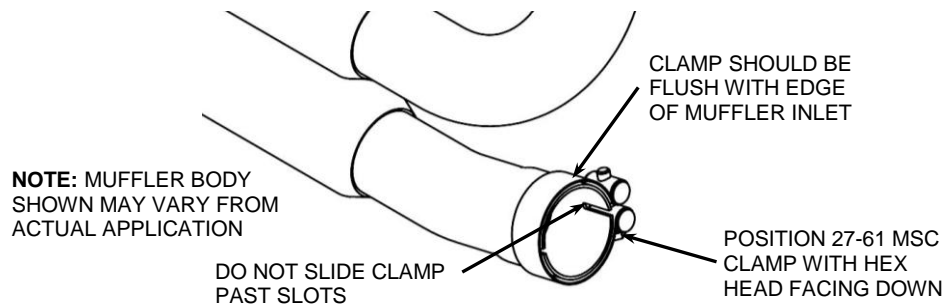

FIGURE 2
9. Position the supplied #27-61 MSC muffler clamp with hex head facing inward and down as shown in **FIGURE 2** and slide it onto the rear muffler inlet tube.
11. Secure the muffler assembly to the exhaust mount bracket using the (2) supplied 5/16"-18 bolts but **DO NOT TIGHTEN**.
12. Make sure the rear muffler assembly and front headpipe are straight and parallel and tighten in the following order; headpipe flanges to the cylinders (slowly tightening opposing nuts), muffler assembly to the exhaust mount and finally the muffler inlet clamp. (NOTE: The muffler inlet clamp should be flush with the end of the muffler inlet when tightened. See **FIGURE 2**. If the muffler inlet clamp is slid past the slots on the muffler inlet, the clamp will not tighten properly).
15. Install the front heatshield first. Slide the rear portion of the heatshield forward over the muffler while gently pushing the front of the heatshield into place between the frame and motor (NOTE: Spread the hose clamps apart slightly to make it easier to slide them over the muffler assembly and headpipes.) Make sure the muffler clamp does not interfere with the heatshield and is aligned as shown in **FIGURE 2**. Snug the heatshield clamps but do not tighten.